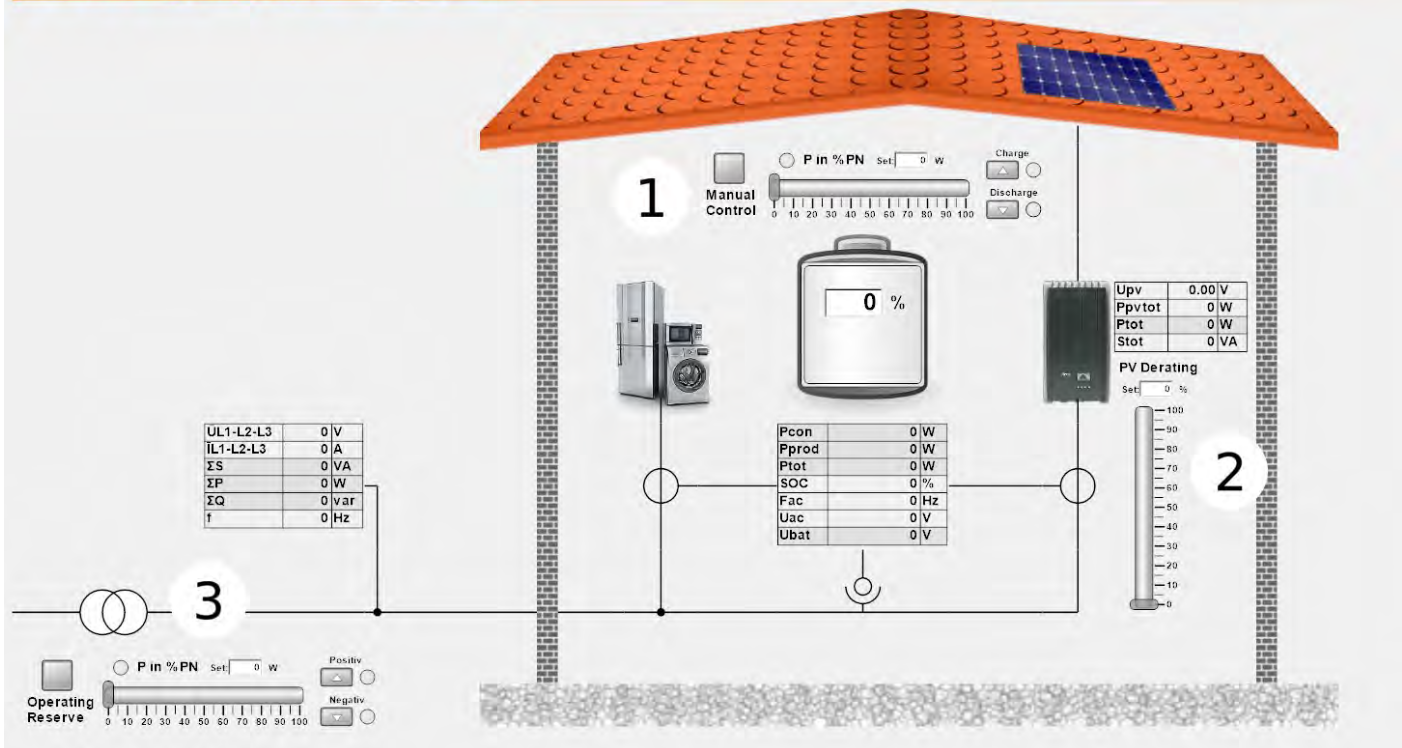

Figure 22:
- ❖ SCADA user interface will look as Figure 22.